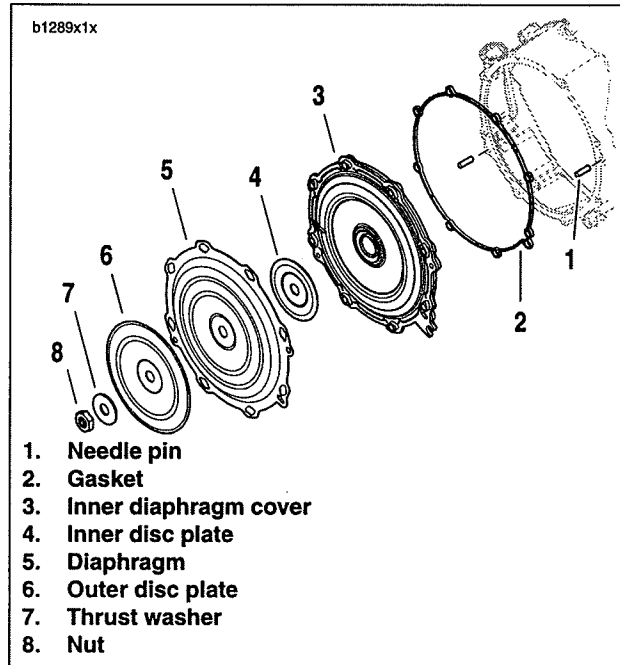

Figure 14. Diaphragm Assembly
- See Figure 14. Verify that the two needle pins (1) are in place in the clutch cover.
- Install the diaphragm cover gasket (2).